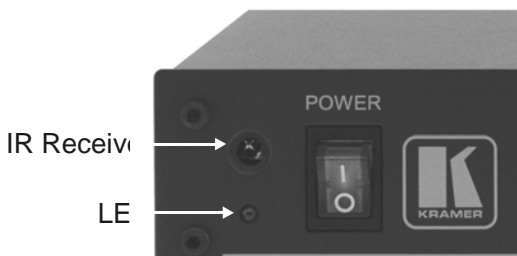
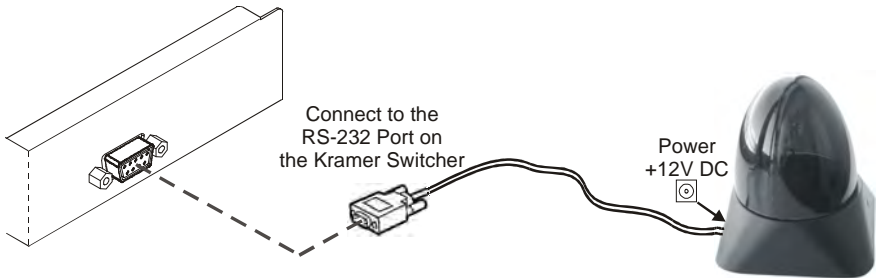

Figure 2: Built-in Remote Receiver
Figure 3: Connecting the External Remote Receiver
- Transmits to a compatible remote receiver, either built-in (see Figure 2) or external (see Figure 3). The transmitter includes non-volatile memory that retains the last setting, even after the power supply is interrupted
Most Kramer switchers¹ include a built-in front panel remote receiver that is located to the left of the power switch, as Figure 2 illustrates:
When your RS-232 controlled Kramer switcher has no built-in front panel remote receiver, you can use the external remote receiver¹ (see Figure 3). The external remote receiver includes an attached RS-232 cable with a 9-pin D-sub connector, and a 12V DC power socket.
To connect the external remote receiver, as the example in Figure 3 illustrates, do the following: